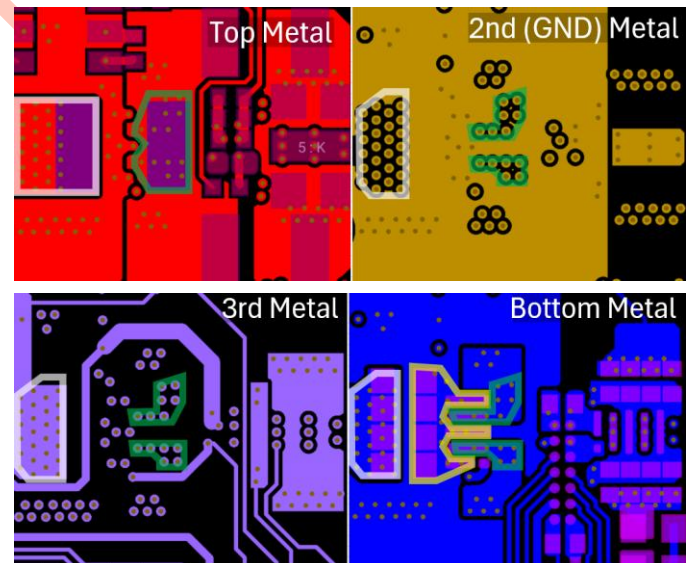

Figure 9: SLE2002-R01 Cres Charge Path – Flux FET ON
3. Cres charging loop: In Figure 9 below, the key charger loop paths when the FluxFET is on are shown in yellow (capacitor to FluxFET source), white (capacitor to inductor) and green (FluxFET drain to inductor).